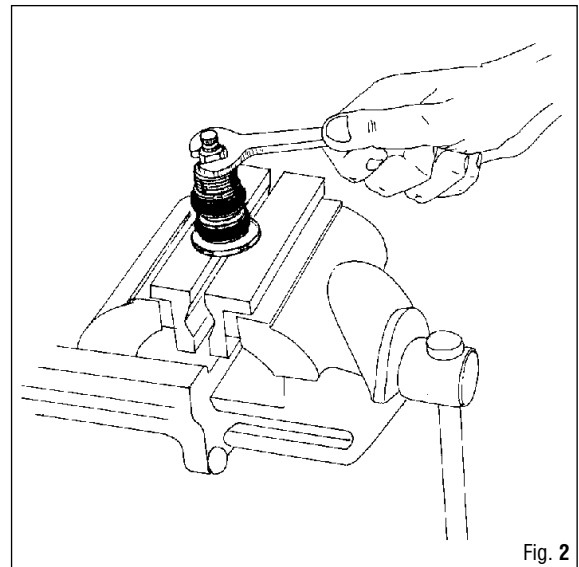

Fig. 2
11. Using a 6-mm open end wrench, remove the deflation button bushing (4) (Fig. 2).
12. Extract the piston (8) and remove the O-Rings (7) and (3).
13. Remove the O-Rings (5) from the deflation piston seat (6).